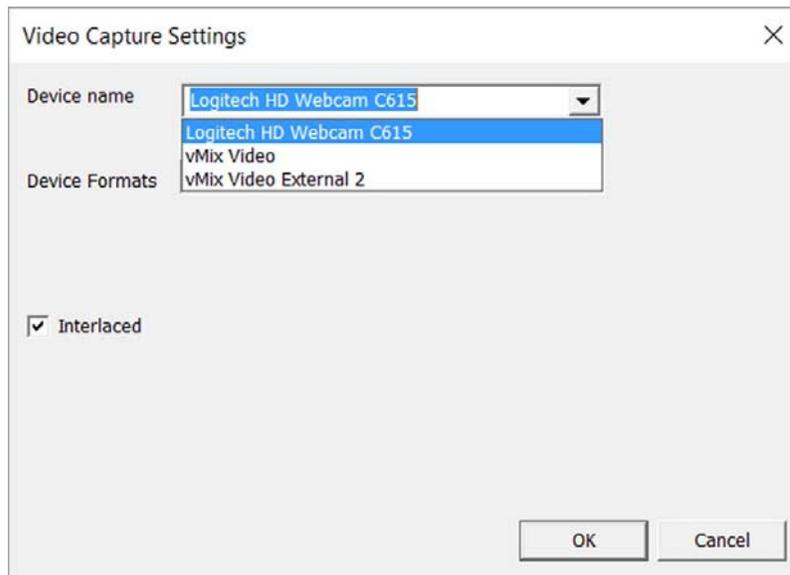

Figure 10 – The Video Capture screen allows you to select your camera if plugged in.
- The VIDEO CAPTURE Settings screen as shown in Figure 10 should appear.